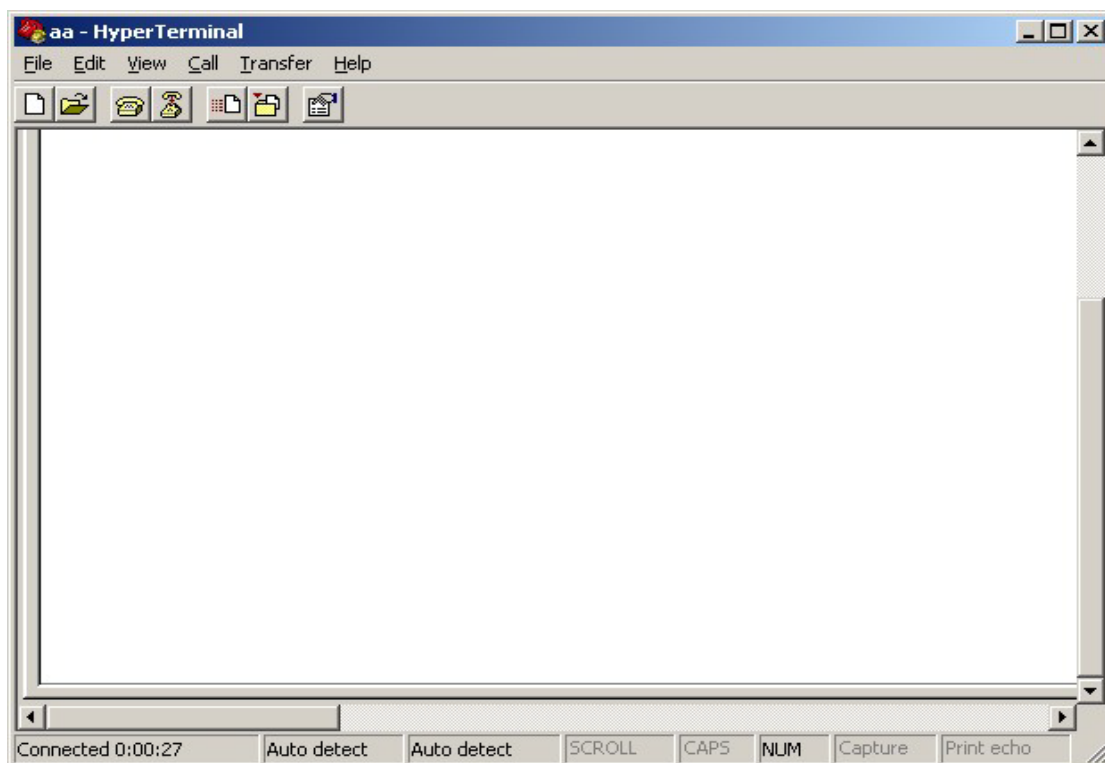

Fig. 3.1.4 Hyper Terminal Interface
Step 4: Serial port parameters setup. Set the serial port parameters as the following setup: Bits per second: 115200, Data bits: 8, Parity: None, Stop bits: 1, Flow control: None. Press “OK” after finish, the Hyper Terminal interface like Fig. 3.1.4 will appear